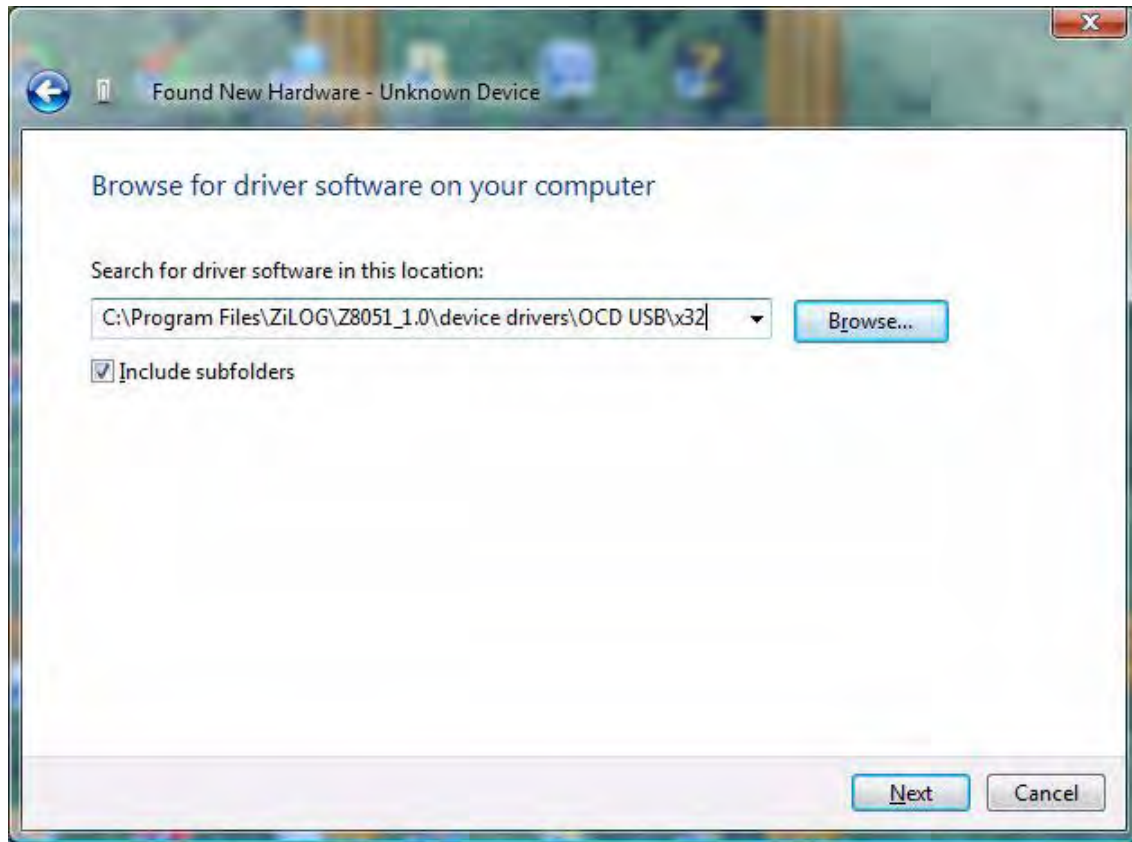

Figure 91. Browse For Driver Dialog, Windows Vista
5. Select **Browse my computer for driver software (advanced)** to display the dialog shown in Figure 91, which prompts you to key in or browse for the location of the `.inf` file. Depending on the type of computer you use (32-bit or 64-bit), use the **Browse** button to navigate to one of the following paths, then click the **Next** button.